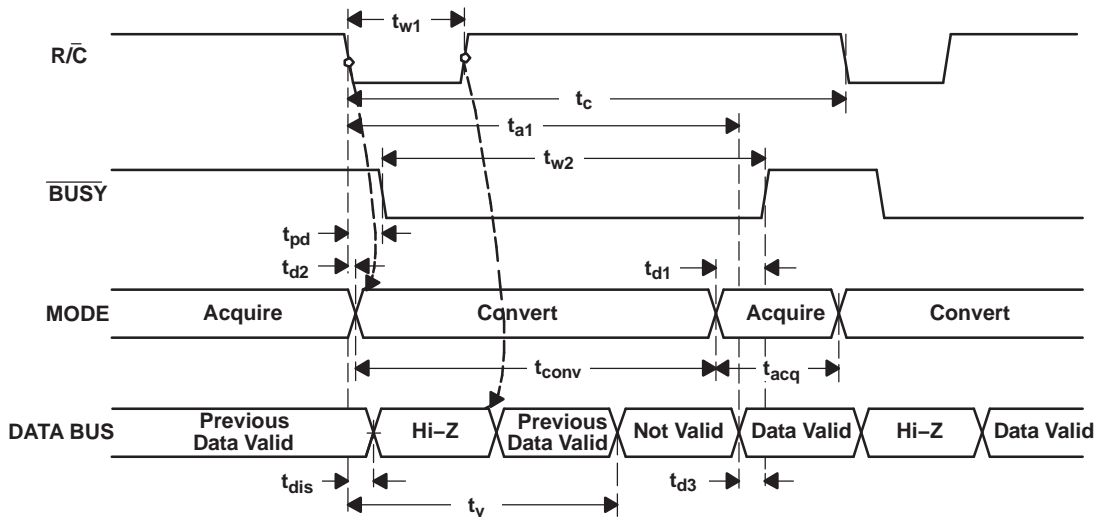
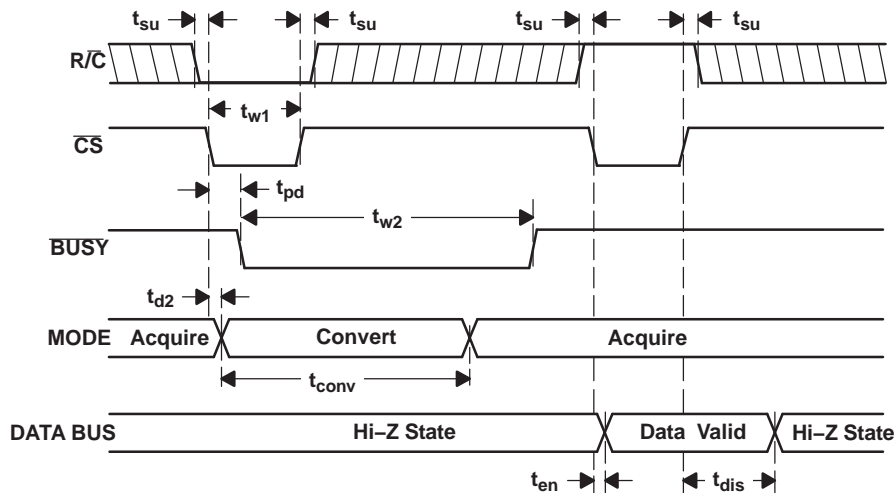
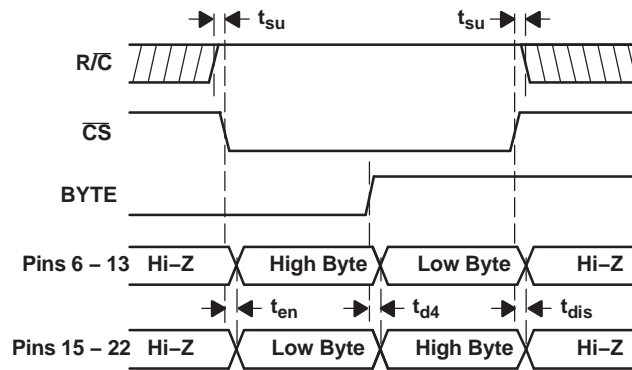

Figure 21. Conversion Timing with Outputs Enabled after Conversion (\overline{CS} Tied Low)
Figure 22. Using \overline{CS} to Control Conversion and Read Timing
Figure 23. Using \overline{CS} and \overline{BYTE} to Control Data Bus
The ADS8515 begins tracking the input signal at the end of the conversion. Allowing 4 μs between convert commands assures accurate acquisition of a new signal. Refer to Table 1 for a summary of $\overline{\text{CS}}$, $\text{R}/\overline{\text{C}}$, and $\overline{\text{BUSY}}$ states and Figure 21, Figure 22, and Figure 23 for the timing diagrams.
(1) See Figure 21 and Figure 22 for constraints on data valid from conversion $n-1$.
After conversion n is completed and the output registers have been updated, \overline{BUSY} (pin 26) goes high. Valid data from conversion n is available on D15-D0 (pins 6-13 and 15-22). \overline{BUSY} going high can be used to latch the data. Refer to Table 3 and Figure 21, Figure 22, and Figure 23 for timing specifications.
After conversion n has been initiated, valid data from conversion -1 can be read and is valid up to t_2 after the start of conversion n . Do not attempt to read data from t_2 after the start of conversion n until \overline{BUSY} (pin 26) goes high; this may result in reading invalid data. Refer to Table 3 and Figure 21, Figure 22, and Figure 23 for timing specifications.
The number of control lines can be reduced by tying \overline{CS} low while using the falling edge of R/\overline{C} to initiate conversions and the rising edge of R/\overline{C} to activate the output mode of the converter. See Figure 21.